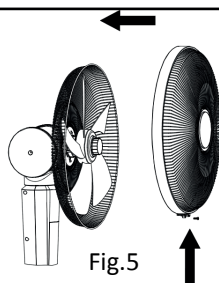

Fig.5
- e-. Assemble front grill and grill ring to the rear grid. Fix the grill with the crew on grill buckle. (Figure5)